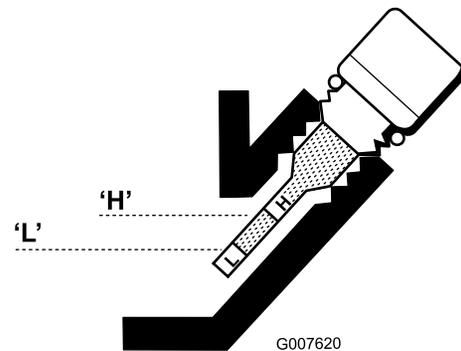

Figure 27
3. Wipe oil level gauge clean and insert it into filler port. Do not screw into port. Then remove and check level of oil. If level is low, add only enough oil to raise level until it is between the "H" and "L" marks on the gauge (Figure 27). Recheck level of oil. Do not overfill.